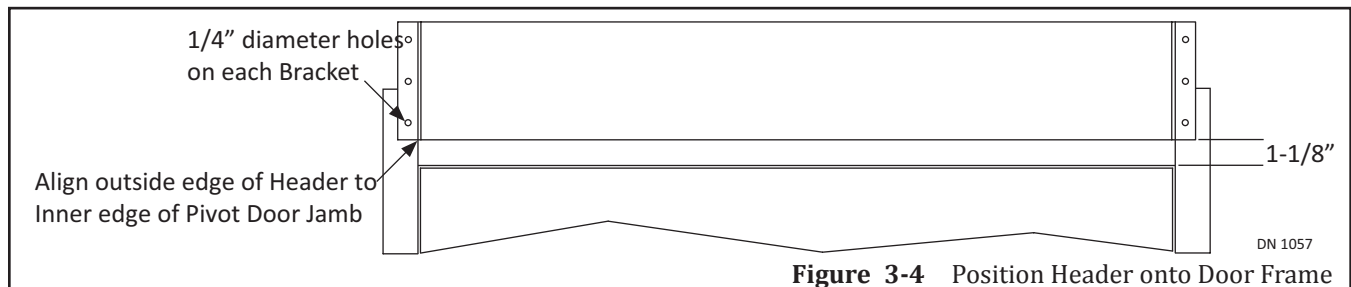

Figure 3-4 Position Header onto Door Frame
3. Lift the Header up against the Top door frame until the bottom edge of Header is butted up against the Horizontal Lines. Please see Figure 3-4.